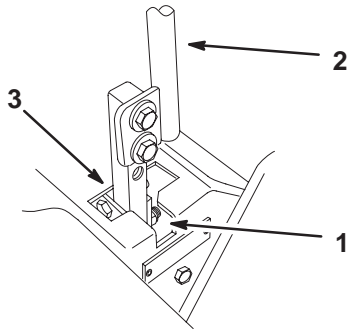

Figure 53
5. Check where the control lever is relative to notch in console (Fig. 53). It should be centered allowing lever to pivot outward to the neutral lock position.